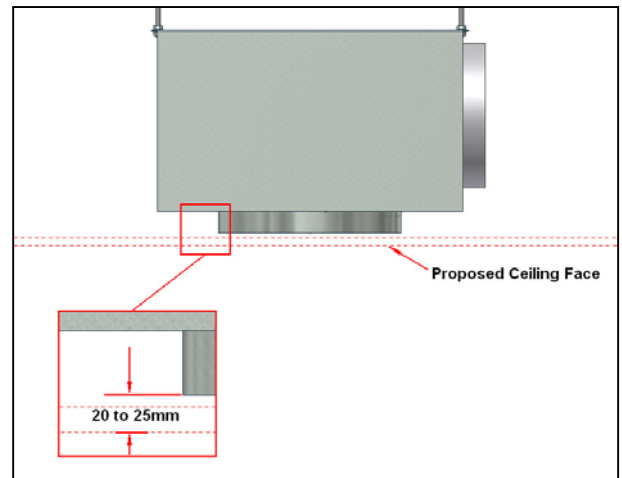

Figure 1: Install Plenum Box
1. Install the Plenum Box in its desired position prior to fitting of the ceiling by suspending it from its mounting holes with Drop Rods (supplied by others). Raise or lower the Plenum as required to give a dimension of 20 to 25mm from the proposed ceiling face (figure 1). Once you are happy with it's position then secure the Plenum in place using the lock nuts on the Drop Rods.